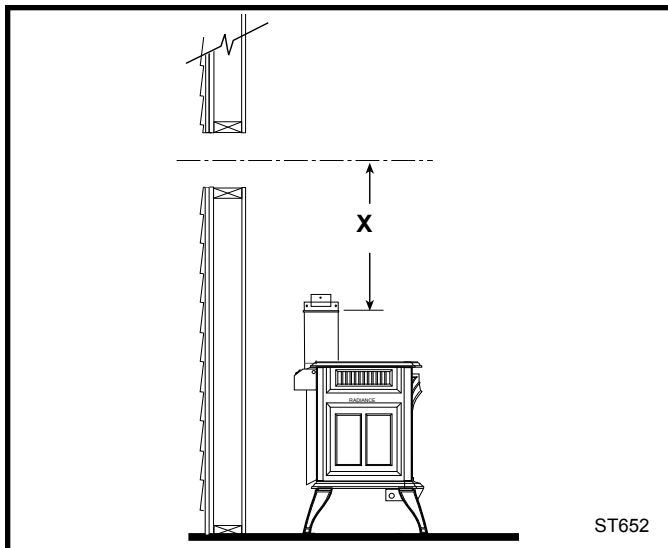

Fig. 26 Determine the vertical pipe length.
- 4. For Vermont Castings Group Vent Pipe only:** If necessary, measure to determine the vertical length (X) of pipe required from the adapter pipe to the wall cutout centerline, including a 2" overlap at the joint. (Fig. 26) use a hacksaw or tin snips to trim the pipe as needed.